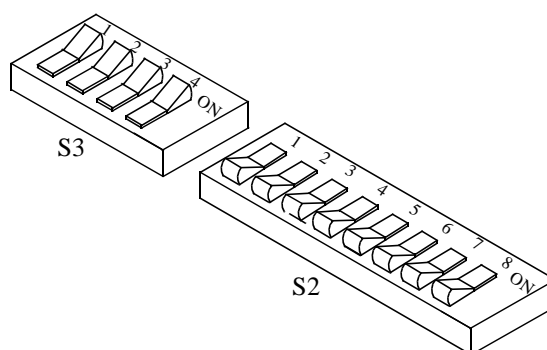

Figure 7-18 NEW HSDB SWITCH SETTINGS
- Inject a 1.2 kHz tone from a **balanced** 600 ohm source, at the level determined by the type of line used, into TXA+ and TXA- of J2 located on the back of the Repeater (see Figure 7-18).
2. Connect a **balanced** AC Voltmeter with a 600 ohm input impedance between balanced lines RXA+ and RXA- of J2 located on the back of the Repeater (see Figure 7-18).
1. Switch settings on the MPC for RS-485 (new style) operation are shown in Figure 7-18. S002 all Section On. S003 all Section Off.
4. Connect a **balanced** AC Voltmeter with a 600 ohm input impedance between balanced lines RXA+ and RXA- of J2 located on the back of the Repeater (see Figure 7-18).